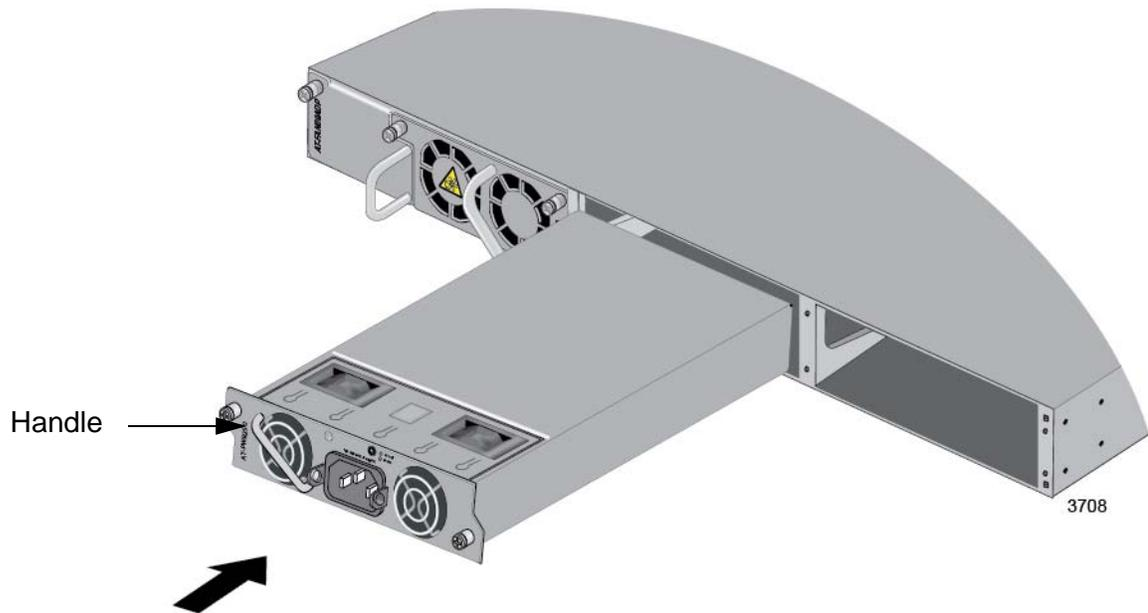

Figure 22. Installing a Power Supply
- Slide the new power supply into slot A or B in the back panel of the switch. Refer to Figure 22 on page 69.
- The handle on the power supply should be on the left as you install the module in the switch. Refer to Figure 22 on page 69.